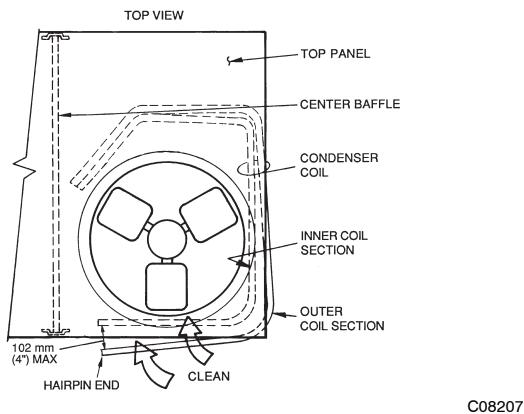

Fig. 17 - Separating Coil Sections
5. Remove fastener holding coil sections together at return end of condenser coil. Carefully separate the outer coil section 3 to 4 in. from the inner coil section. See Fig. 17.